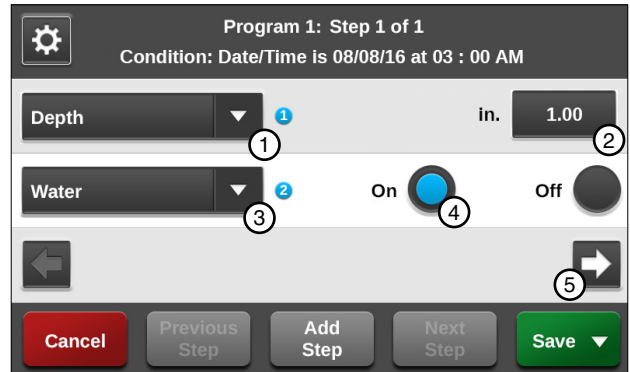

Figure 125-1 1. Depth Command 4. Water On
4. Enter the commands to be executed at that time. Refer to Figures 125-1 and 125-2.